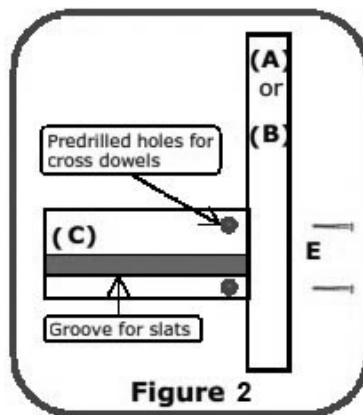
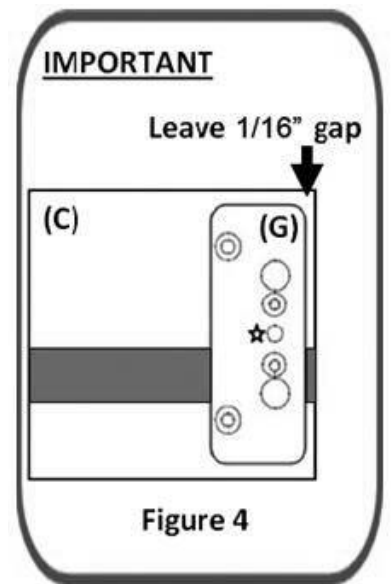

Figure 2
Figure 4
2. Secure bed fitting plates (G) to bed rails (C) using 3x 1-1/4" screws for each plate, refer to **Figure 2** for marking locations. **Important:** a 1/16" gap between edge of bed fitting plate and bed rail end is needed to make the bed rail connect tightly to bed end, refer to **Figure 4**.